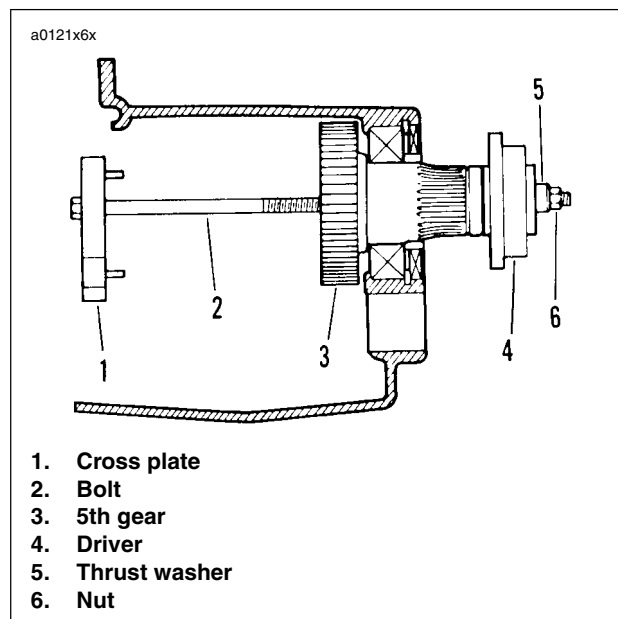

Figure 6-71. Removing Main Drive Gear
5. See Figure 6-71. Assemble MAIN DRIVE GEAR REMOVER AND INSTALLER (Part No. HD-35316A) with CROSS PLATE (Part No. B-45847).
6. Insert bolt (2) through cross plate (1) and 5th gear (3).